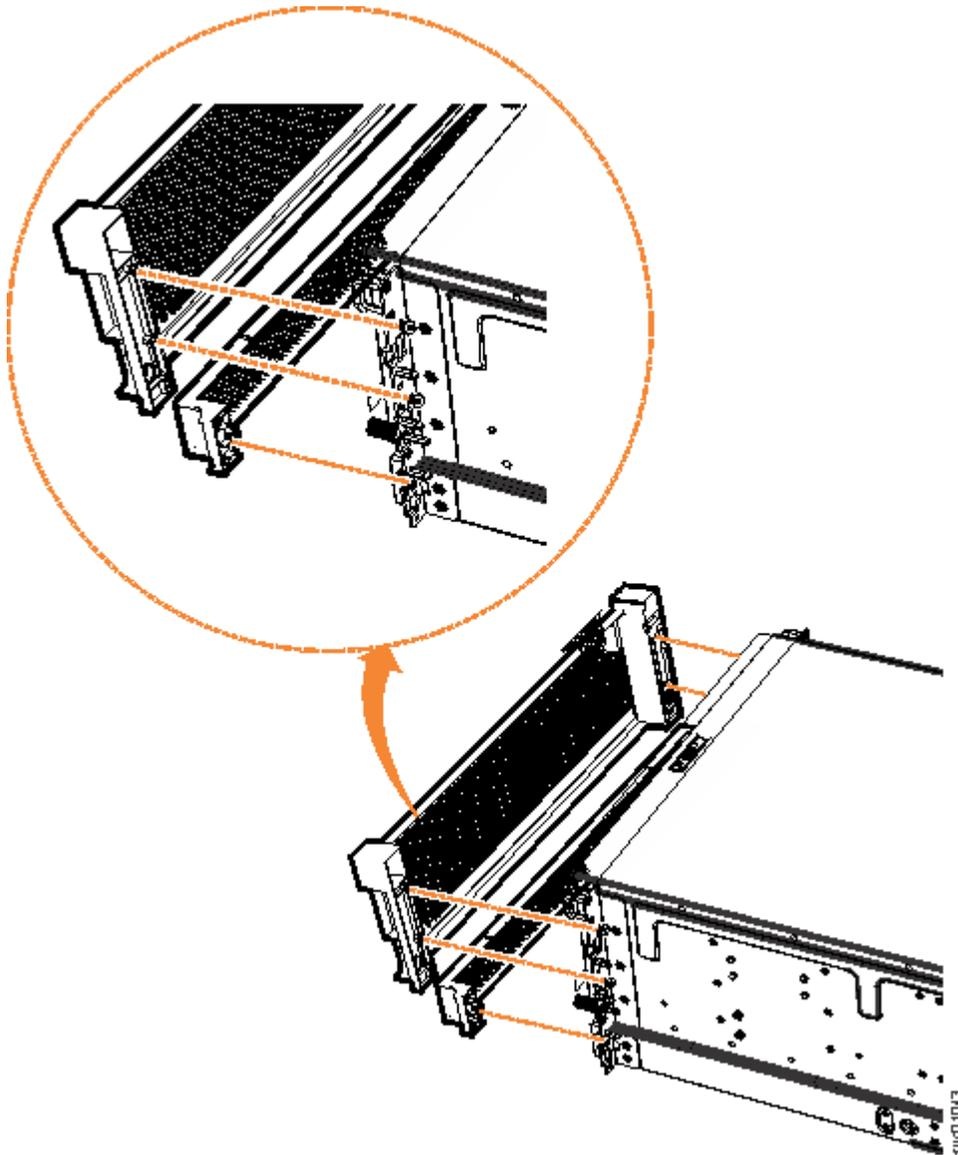

Figure 153. Remove fascia components from the expansion enclosure
2. Remove the front fascia by removing the two screws that attach the fascia to the flange on each side of the chassis, as shown in Figure 153 on page 211.
3. Gently pull on each side of the PSU fascia to remove it from the chassis, as shown in Figure 153 on page 211. The PSU fascia disengages from the slot and pin that connect it to each side of the chassis.